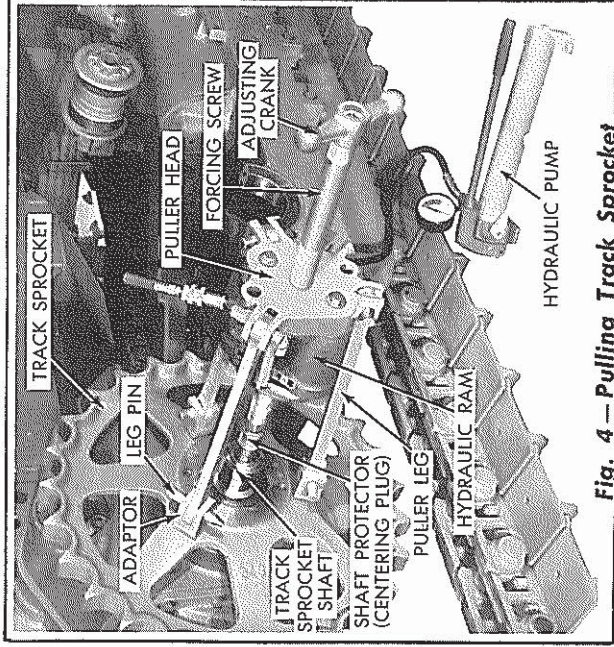

Fig. 4 — Pulling Track Sprocket
7. Remove the two (2) capscrews attaching the sprocket retaining nut lock to the sprocket and remove the nut lock and the sprocket retaining nut. Use care when removing the sprocket retaining nut and prevent damage to the oil seal ring cemented to the nut. Using puller tools similar to the ones shown in Fig. 4, pull the track sprocket and remove